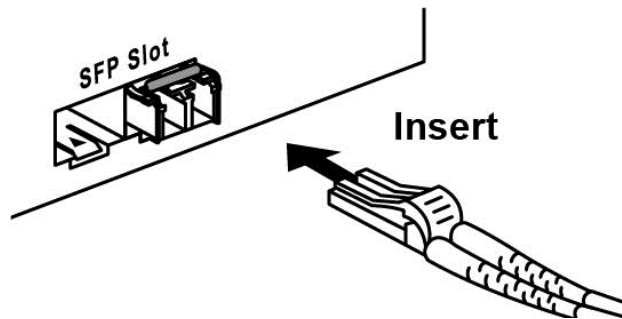

Figure 2.6: LC Connector to the Transceiver
- Step 2 Insert the fiber cable of the LC connector into the transceiver as shown below in Figure 2.6.